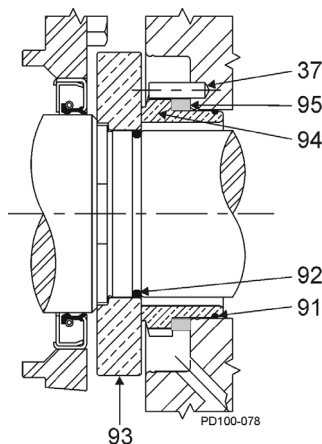
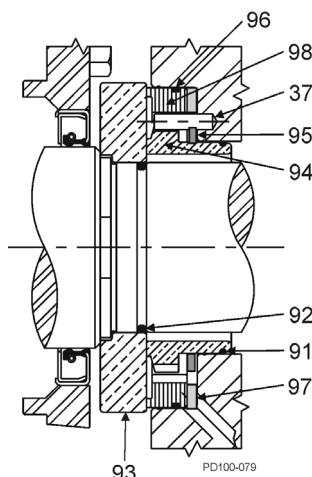
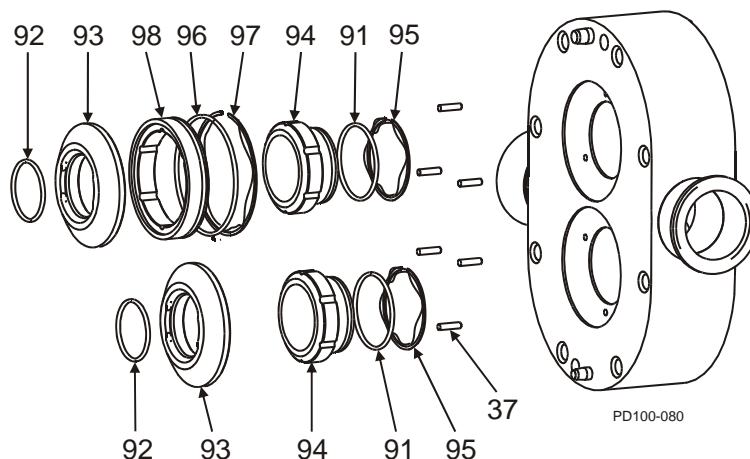

Figure 77 - Single Mechanical Seal
Figure 78 - Double Mechanical Seal
Figure 79 - Single (Bottom) and Double (Top) Mechanical Seal
Table 9: Callout table for Figure 77, Figure 78, and Figure 79
1. Lubricate the shaft o-ring (Figure 77, item 92) with a lubrication compound compatible with the o-ring material and process fluid(s). Place the o-ring on the shaft.
2. Install the rotating seal seat (item 93) on the shaft. Align the drive flats on the seat with the drive flats on the shaft.
4. Install the inner wave spring (item 95) onto the inner seal (item 94).
5. Lubricate the inner seal o-ring (item 91) with a lubrication compound compatible with the o-ring material and process fluid(s). Install the inner seal o-ring into the groove of the inner seal.
7. If a double mechanical seal is used, install the outer wave spring (Figure 78, item 97) in the body and the outer o-ring (item 96) in the outer seal groove (item 98). Place the outer seal in the pump body around the inner seal, aligning the notches in the outer seal with the stop pins in the body.